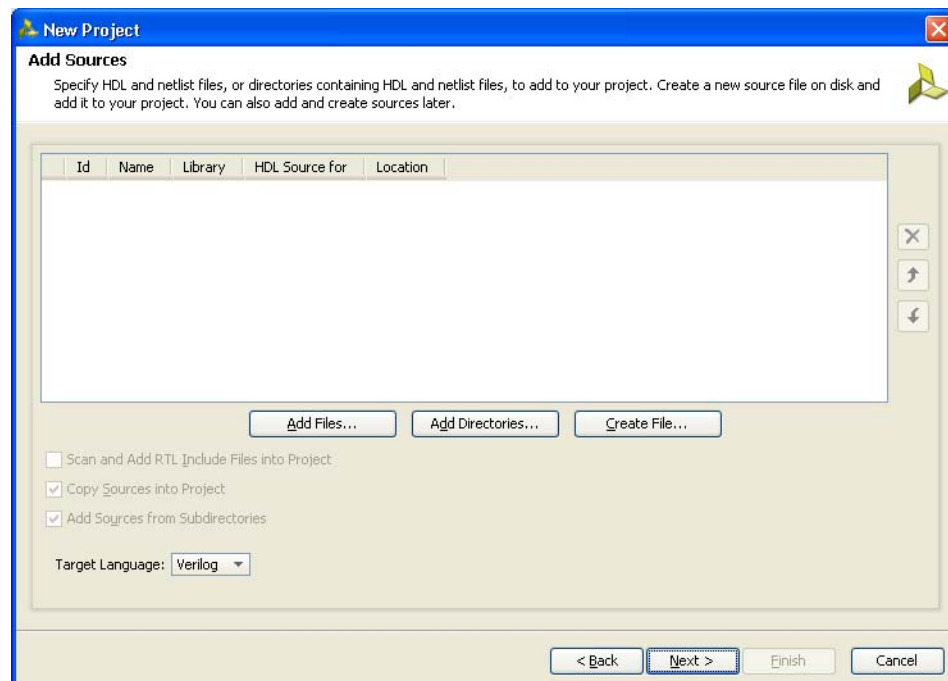

Figure 4-5: Add Sources
- Click **Next** to proceed to the **Add Sources** page (Figure 4-5). RTL files can be added to the project in this page. If the project was not created earlier, proceed to the next page.